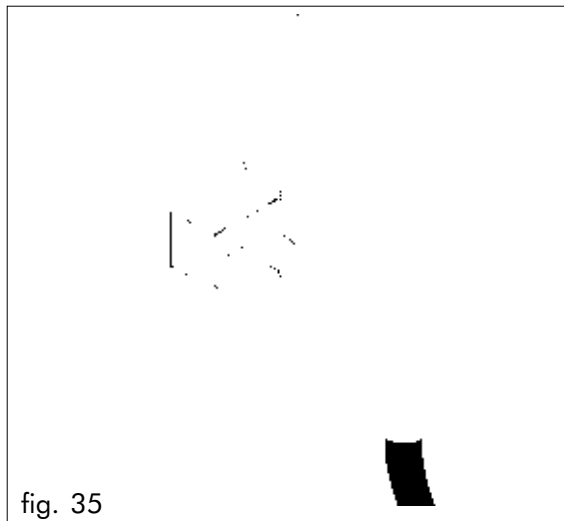
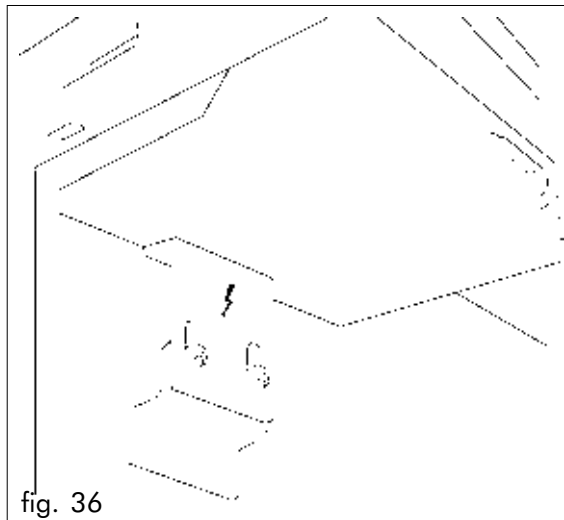

fig. 35
fig. 36
The power cable plug (ref. 1, fig.35) as well as the service switch inside the distributor (ref.1, fig. 36) remain alive.